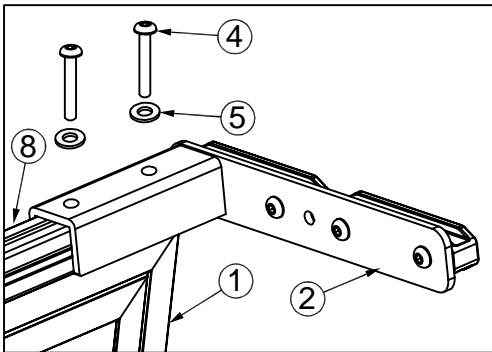

Fig. 2
3. Attach the Right Hand Side Mounting Bracket (#2) to the assembly with two Allen Head 8mm Bolts (#4) and two Flat Washers (#5). Do not tighten. (See Fig. 2)